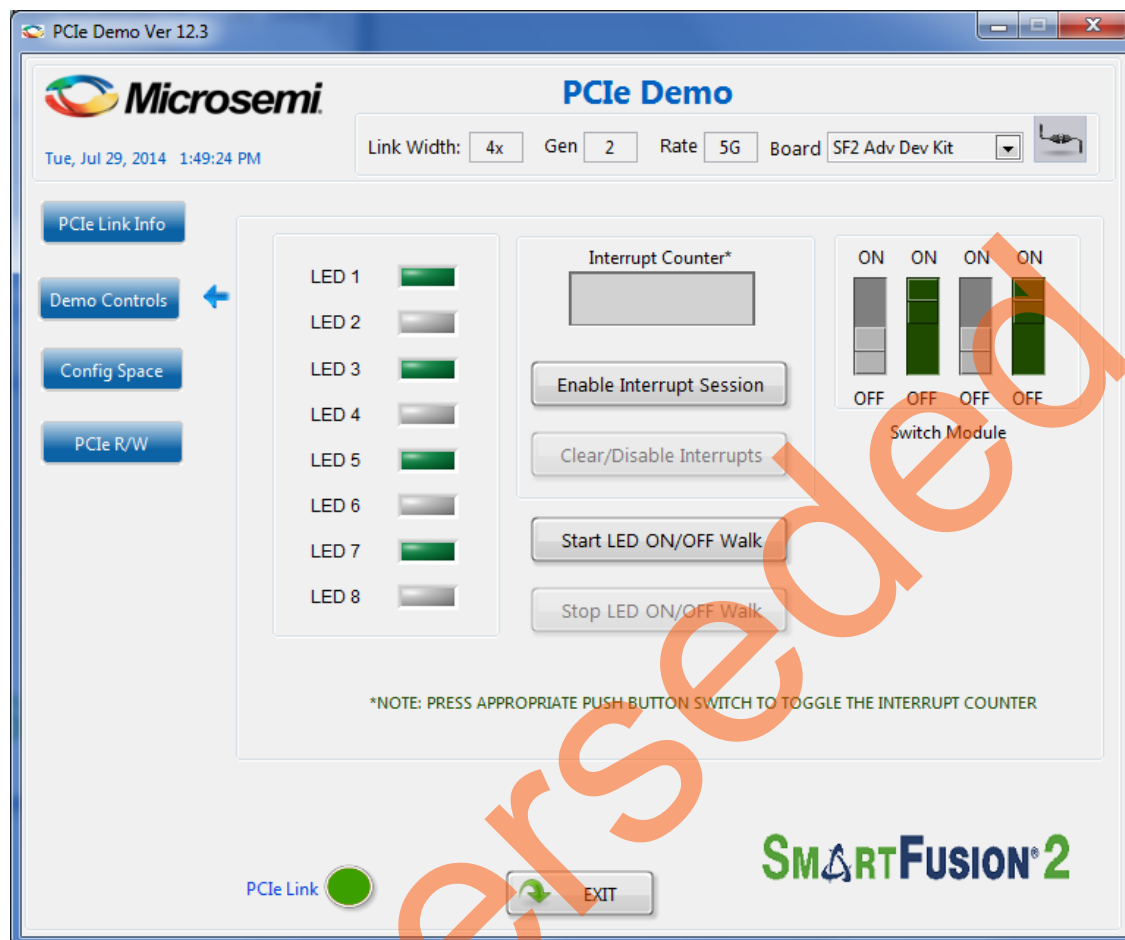

Figure 26 • Demo Controls
5. Click **Demo Controls**. Figure 26 shows the LED options and DIP switch status.